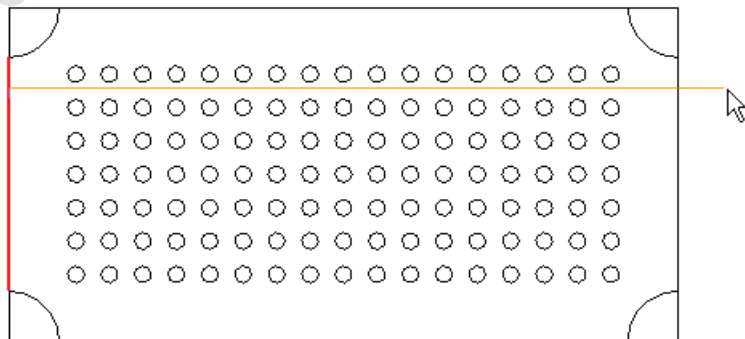

Figure 1–97
6. Select a second break line location, as shown in Figure 1–98.